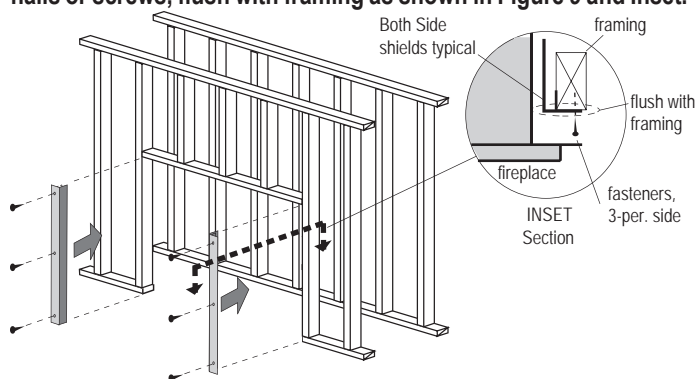

Figure 9. Combustible Framing Side Heat Shield L42FS01x2, (two 2-pcs).
NOTE: The shields must be installed as shown in Figures 9 - 9b.
Step 1. Fasten the two Side shield's (L42FS01x2) first, and ensure they are fastened in place as shown. These are installed with the Wide flanges facing the center of the fireplace opening, and the shallow flange toward inside of room. These are also fastened with nails or screws, flush with framing as shown in Figure 9 and Inset.